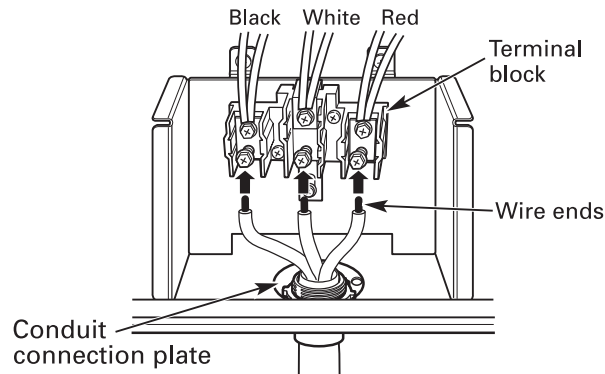

FIGURE 11
1. Loosen the lower 3 screws from the terminal block. (Refer to Figure 11.)